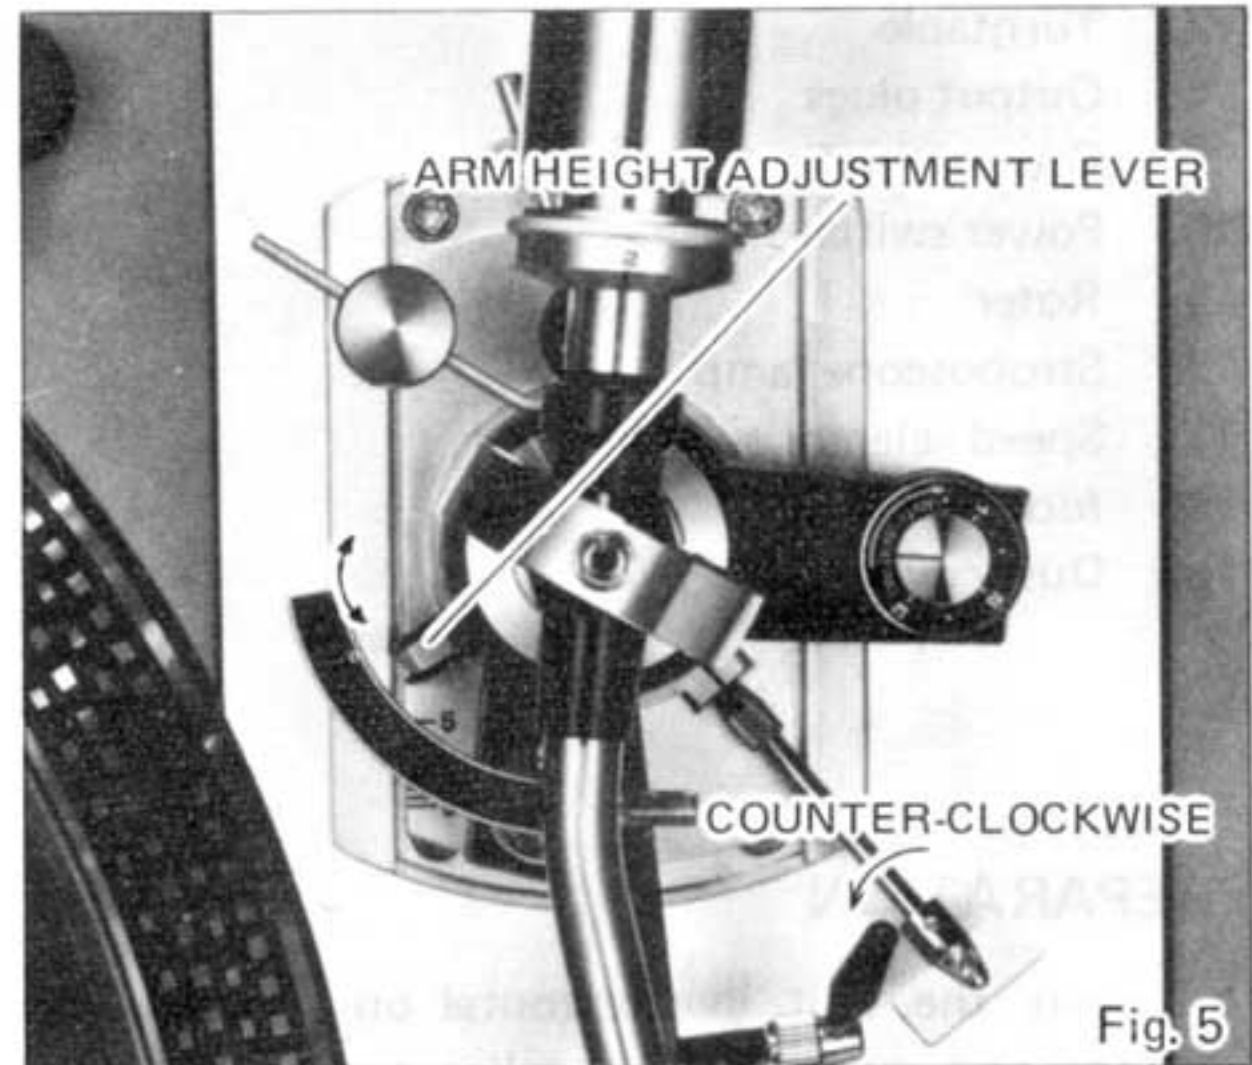

Fig. 5
3. Turn the lock bar counter-clockwise and shift the tonearm height adjustment lever to make the tonearm horizontal. After adjustment, turn the lock bar clockwise (Fig. 5).